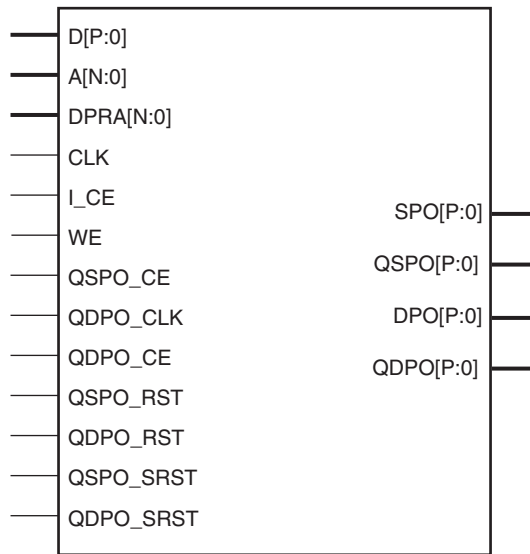
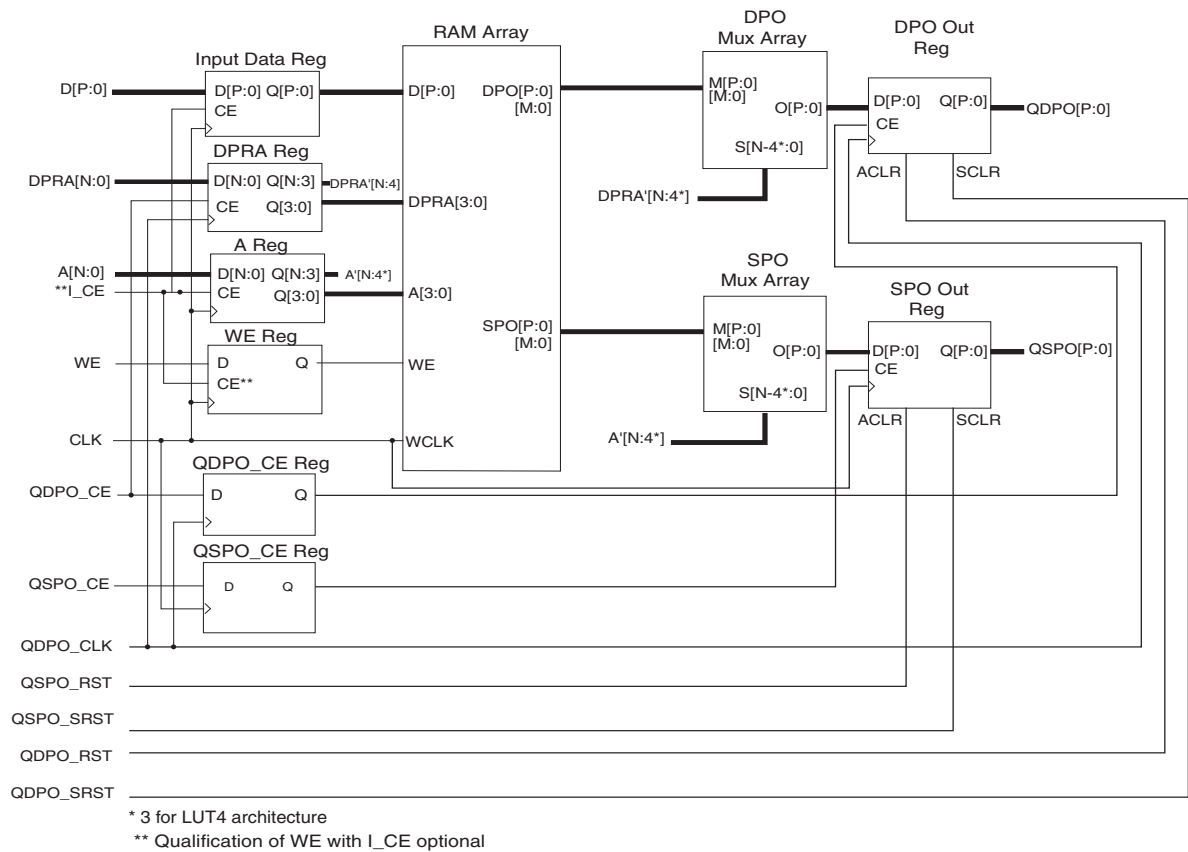

Figure 5: Dual-Port RAM Schematic Symbol
Figure 6: Dual-Port RAM Module Schematic
Writes to the distributed dual-port RAM are synchronous to the clock (CLK). However, read operations from the distributed dual-port RAM can be asynchronous or synchronous with respect to either of the two clocks (CLK or $QDPO_CLK$). Figure 5 illustrates the dual-port RAM schematic symbol, showing the relevant ports. Figure 6 shows the internal implementation of the distributed dual-port RAM. If a pipeline register is added to a registered core (not illustrated), the additional register is re-timed into the SPO MUX array and DPO MUX array.
- **Dual-Port RAM.** Figure 6 is a schematic of the structure of the dual-port RAM modules. The address and data registers are optional (controlled by the setting of the Input Options parameter). The dual-port read address register is optional (controlled by the setting of the Dual-Port Address parameter). Output registers for both output ports are also optional (controlled by the setting of the Output Options parameter). When registered outputs are selected, the two output ports can be